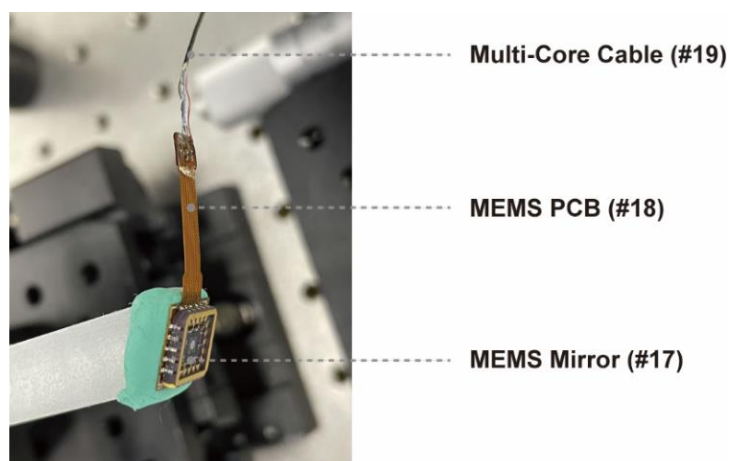

Figure 3.3 Photo of the MEMS mirror attached to its holder
Step 23. Solder the MEMS PCB (#18) to the base of the MEMS mirror (#17) and the multi-core cable (#19) to the MEMS PCB (#18) as shown in Figure 3.3. (Zong *et al.* have detailed the soldering methods in their work, <https://doi.org/10.1016/j.cell.2022.02.017>).